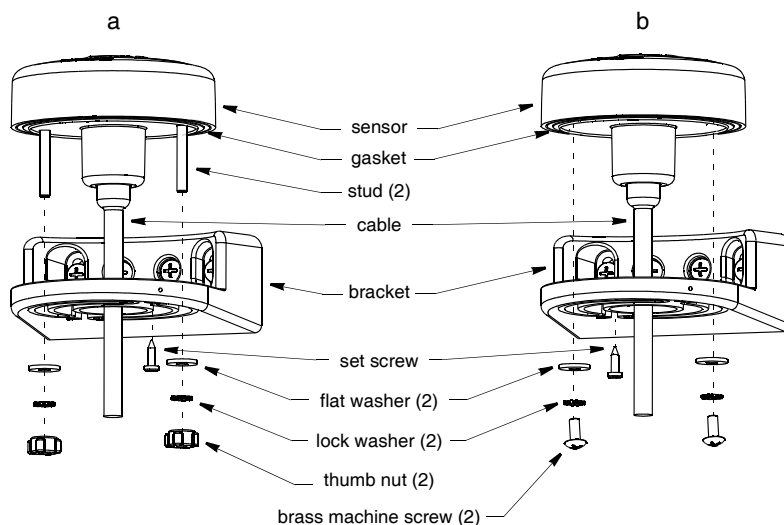

Figure 3. Installing the sensor in the mounting bracket
1. Feed the cable through the mounting bracket (Figure 3).